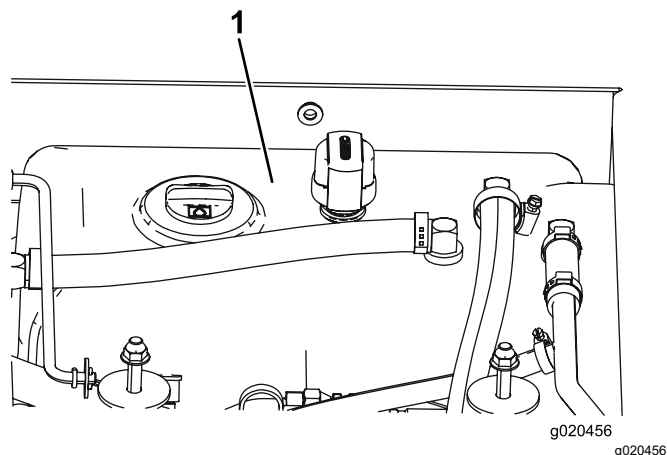

Figure 116
4. Fill the reservoir (Figure 116) with hydraulic fluid; refer to Hydraulic Fluid Specifications (page 76).